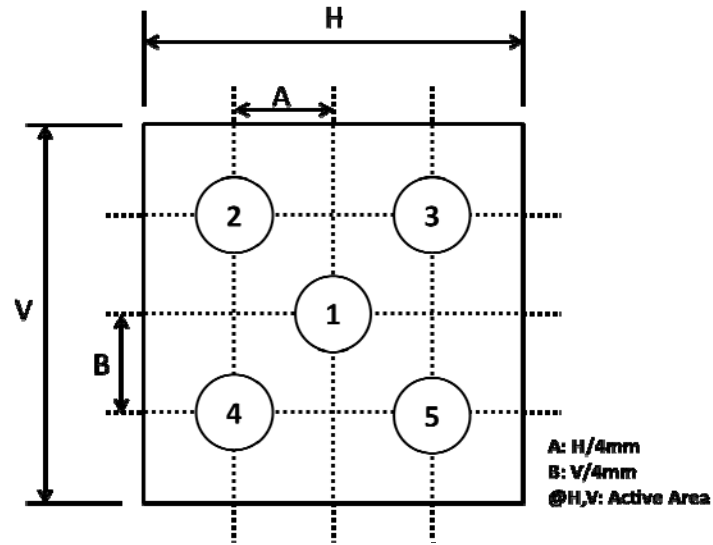

FIG. 2 5 Points for Luminance Measure
1. Contrast Ratio(CR) is defined mathematically as :Surface Luminance at all white pixels CR = Surface Luminance at all black pixels. It is measured at center 1-point.
2. Surface luminance are determined after the unit has been 'ON' and 1Hourafterlighting the backlight in a dark environment at 25±2°C. Surface luminance is the luminance value at center 1-point across the LCD surface 50cm from the surface with all pixels displaying white. For more information see the FIG. 2.